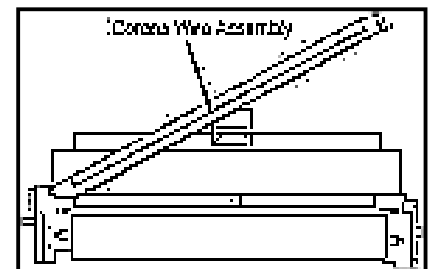

Figure 3
4. Remove Corona assembly (Fig. 3). Inspect & clean.
10. Remove 3 screws to wiper blade (Fig. 3). Peel back felt off of wiper blade (Fig. 7).
12. Remove screw on top of waste hopper. (Fig. 3)